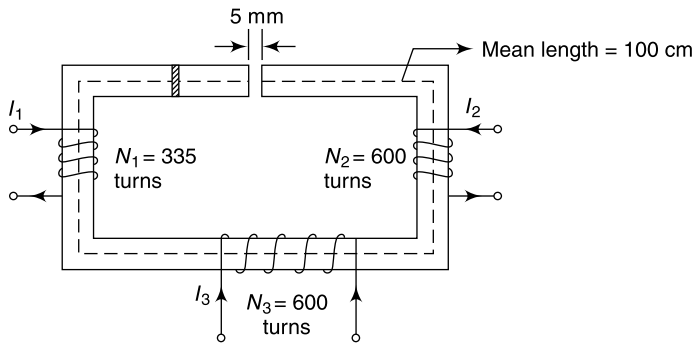

Fig. 3.44 A rectangular iron-core (Ex. 3.65)
3.65 A rectangular iron-core is shown below in Fig. 3.44. It has a mean length of magnetic path of 100 cm, cross-section of (2 cm × 2 cm), relative permeability of 1400 and an air-gap of 5 mm is cut in the core. The three coils carried by the core have number of turns $N_1 = 335$, $N_2 = 600$ and $N_3 = 600$, and the respective currents are $I_1 = 1.6 \text{ A}$, $I_2 = 4.0 \text{ A}$ and $I_3 = 3.0 \text{ A}$. The directions of the currents are as shown. Calculate the flux in the air-gap.